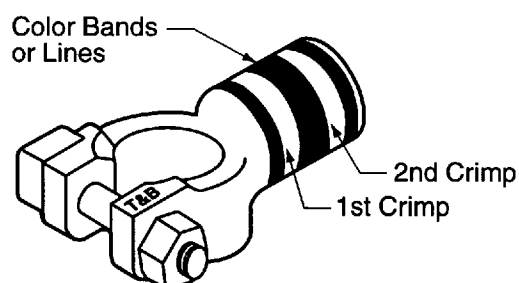

Figure 2
8. Position connector in die. Compress (crimp) between colored lines. (See figure 2). First compression should be furthest from cable. A total of two crimps is necessary. If KOPR-SHIELD† compound was applied in Step 5, wipe off excess.